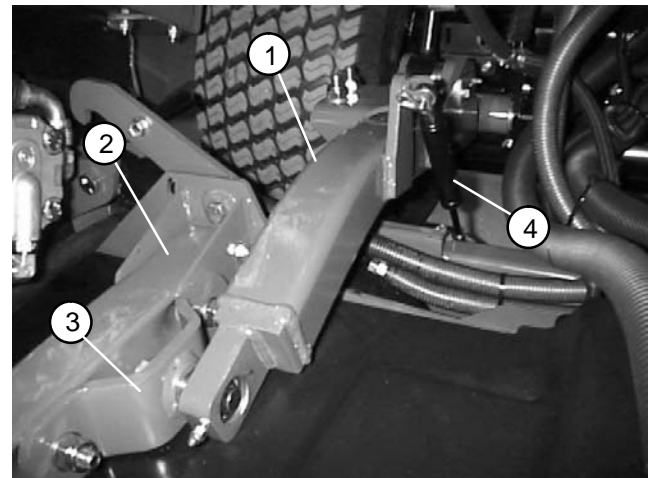

Figure 3
4. Remove hairpins and clevis pins that secure dampers to lift arms (Fig. 3). Rotate dampers and place on cutting deck.
7. Remove cap screws, flat washers, and flange nuts that secure support hubs to cutting deck castor arms (Fig. 3).
3. Align support hub to cutting deck castor arms and secure with cap screws, flat washers, and flange nuts (Fig. 3).
7. Position dampers to lift arms. Install clevis pins and hairpins to secure dampers to lift arms (Fig. 3).